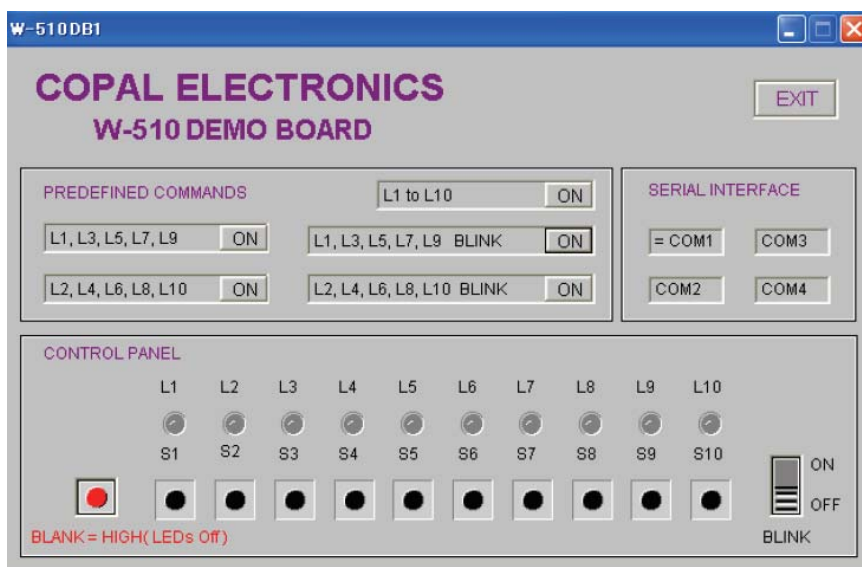

Figure 4. W-510DB1 Software User Interface Window
- The W-510DB1 user interface window opens (Figure 4).